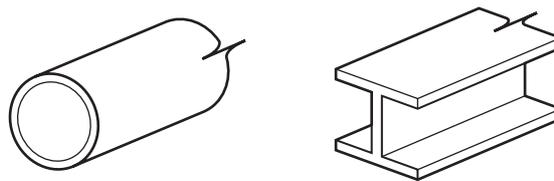

Fig. 2
- 3 Which process would be used to produce the plastic sections shown in Fig. 2? [3]